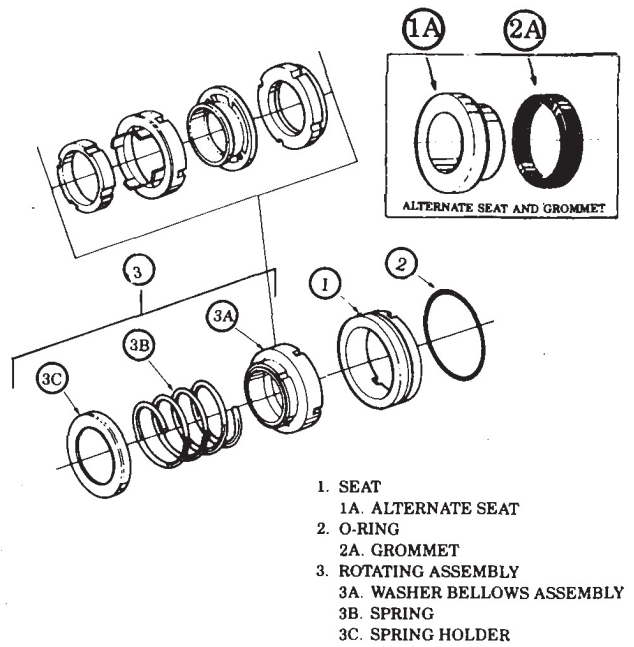

FIGURE 4. Crane Type 21 Mechanical Seal.
Crane 21 Mechanical Seal (Figure 4): Slide mechanical seal rotating assembly (3) on power rotor (013) with spring holder (3C) next to shim (062).